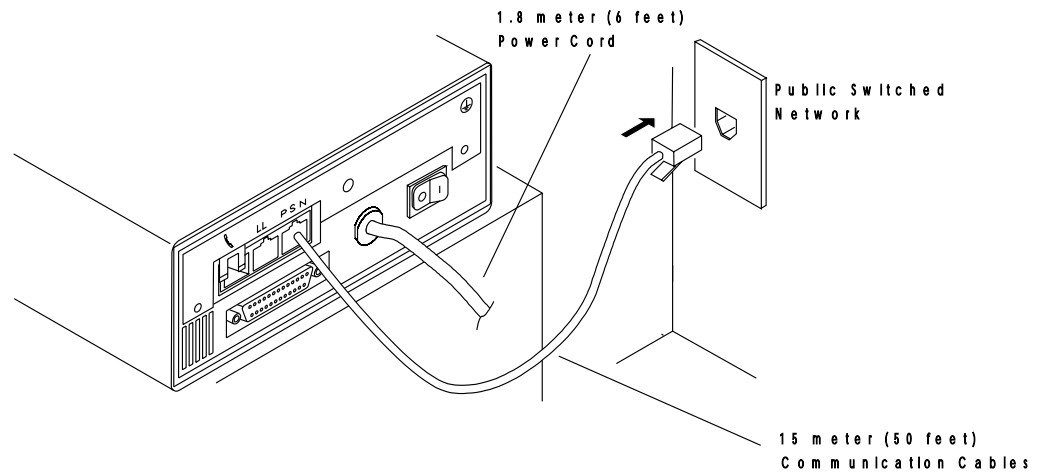

Figure 1-18. Installing Telecommunication Line Cables. Your modem’s rear panel may have the PSTN and LL connectors located differently from those shown.
2. ____ **Plug** the switched network telecommunication cable into the 8-pin *PSTN* or *PSN* jack located on the modem’s rear panel. If this modem is **not** being installed in the United Kingdom, connect the other end of the cable to the telecommunication line. See Figure 1-18.